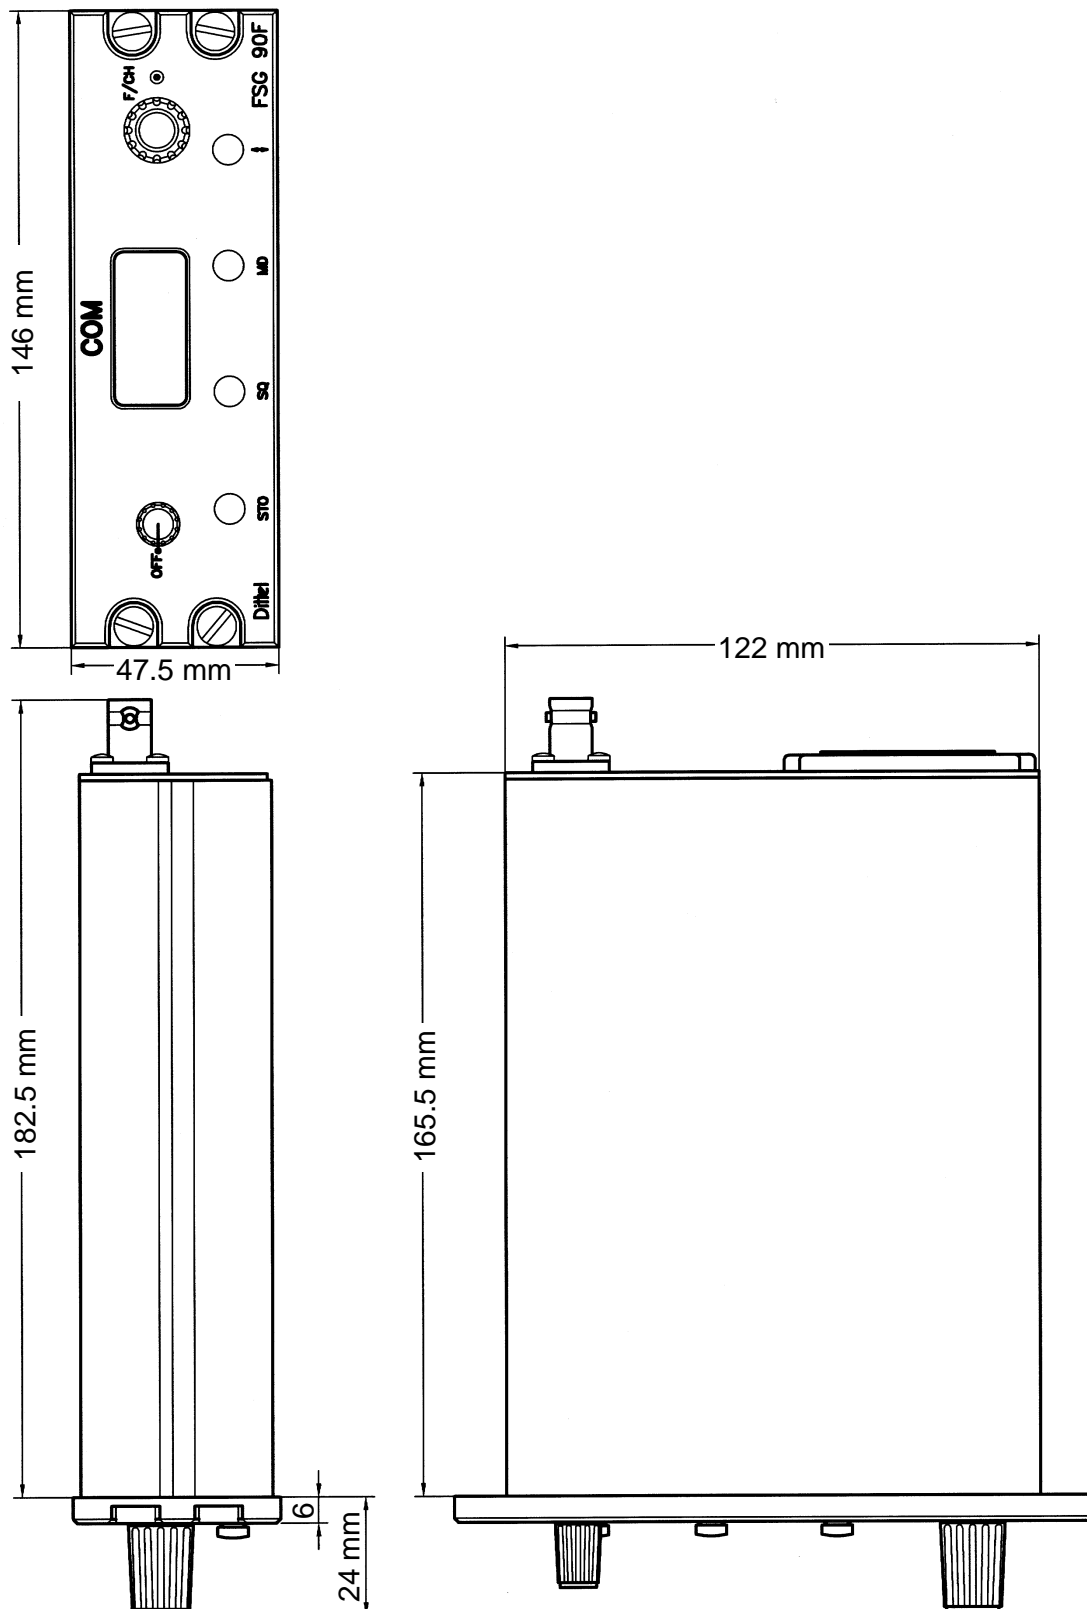
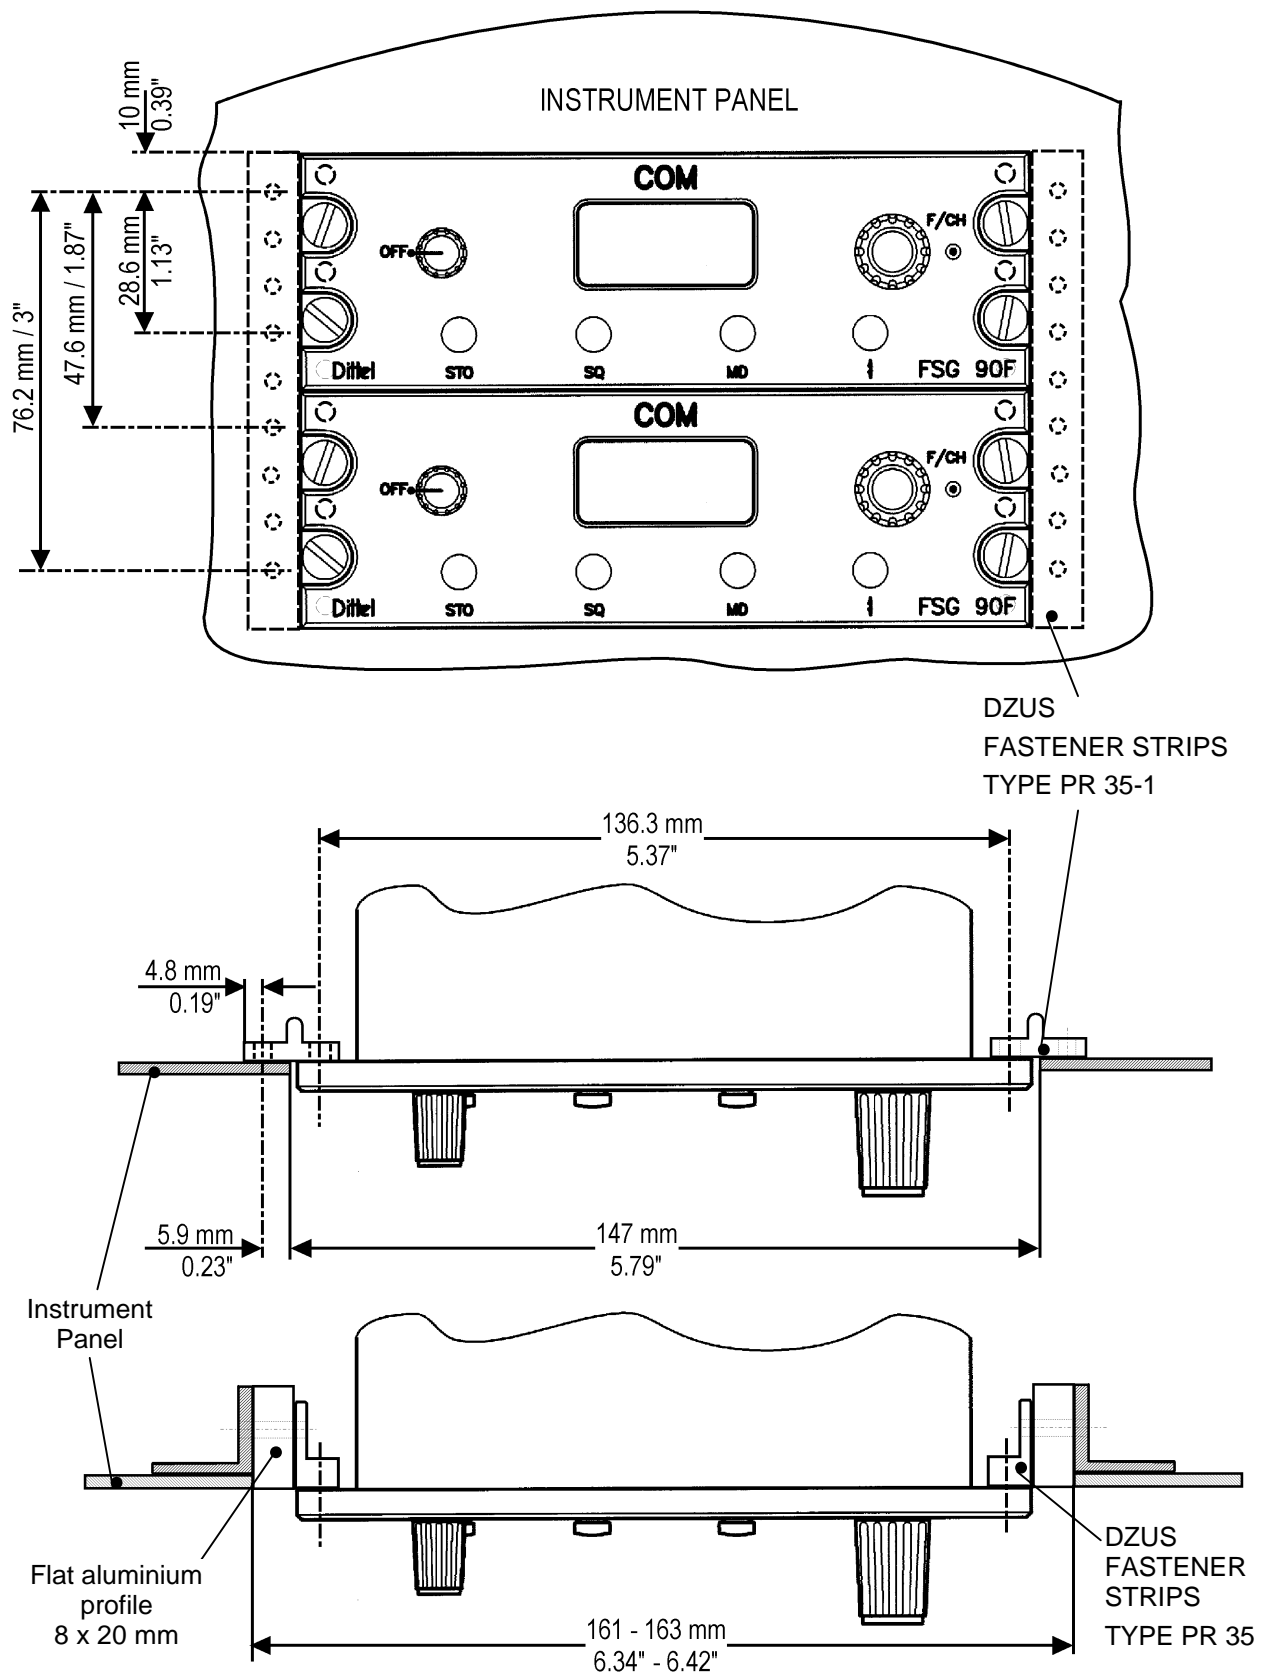

FIG. 3-3: **FSG 90F(X)**
Fig. 3-4: **FSG 90F(X)**
**FSG 90F(X)** VHF/AM transceivers are designed to be installed into the instrument panel or operating console from its front side. Fixing is made by four DZUS fasteners (ARINC NORM SIZE). All dimensions to install the **FSG 90F(X)** refer to Figure 3-3. For installation of the fastener strips refer to Figure 3-4.
If there is no suitable cutout, one can be made following the dimensions given in Figure 3-4. Using flat fastener strips (type PR 35-1) is recommended.